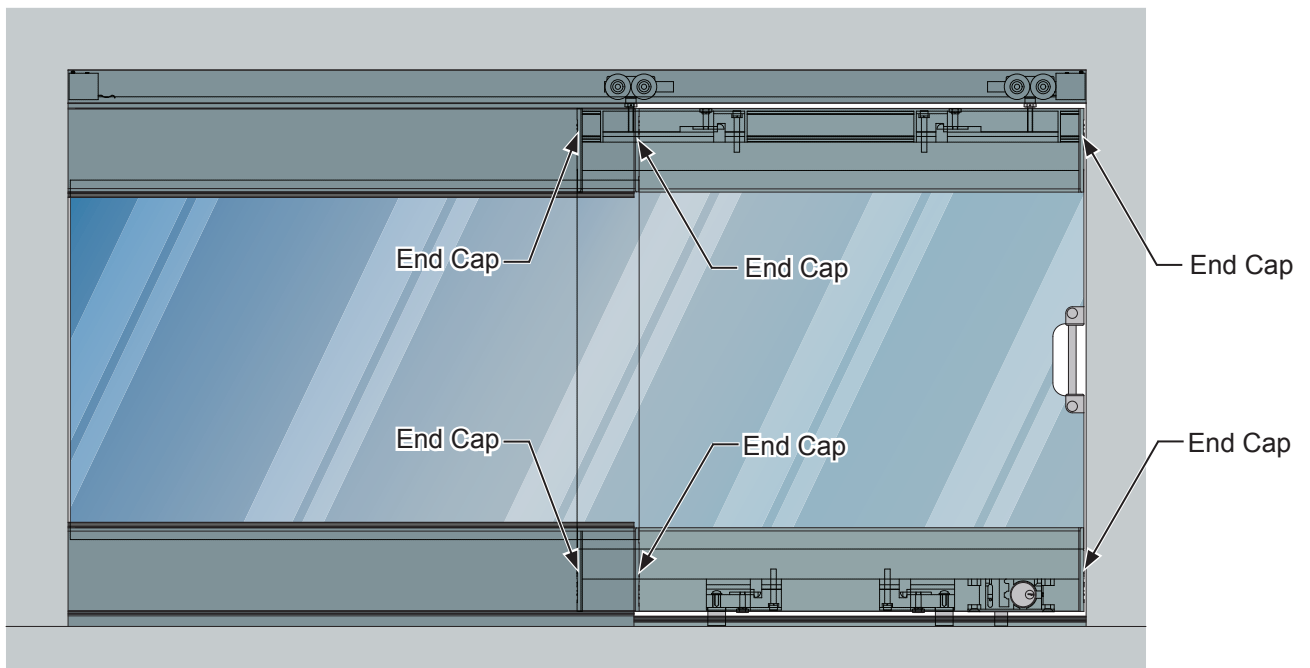

FIG. 11
3. Insert the wool pile Carriers into each end of the door rail and replace the End Caps. **(FIG. 11)**